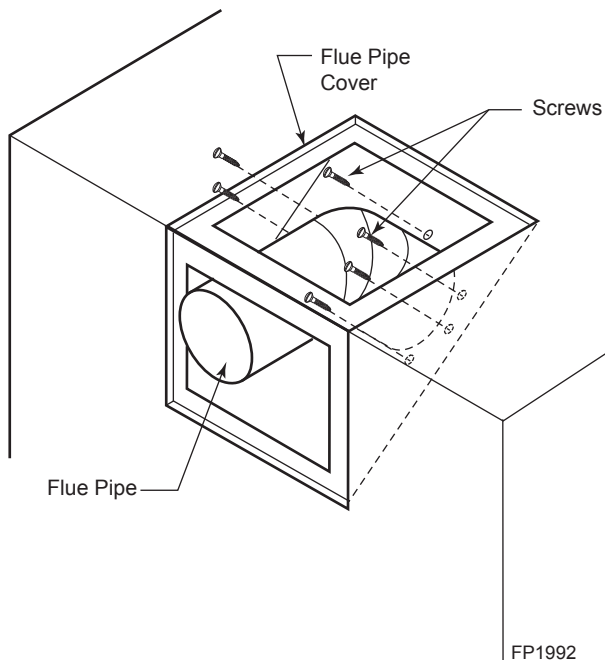

Figure 10 - Remove Flue Pipe
When installing into existing framed (A1) openings, loosen the junction box. Remove the rear-mounted flue pipe adaptor. Refer to Page 16, Figures 10 and 11. Reattach both assemblies.
4. Remove eight (8) screws securing the flue pipe to the back of the intake box and remove the pipe and gasket. *Figure 10*